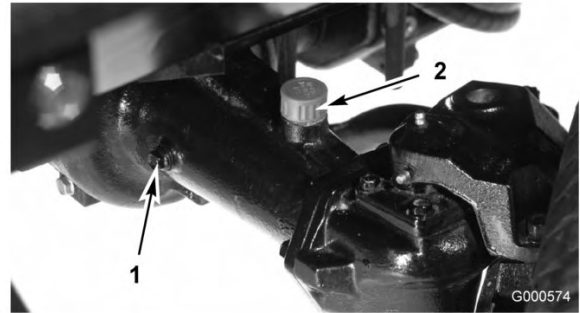

Figure 47
2. Remove a check plug from one end of the axle (Figure 47) and make sure that the lubricant is up to the bottom of the hole. If the level is low, remove the fill plug (Figure 47) and add enough lubricant to bring the level up to the bottom of the check plug holes.